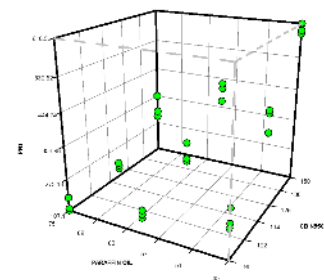

Fig. 2: Pressure at Nozzle over CB 550 and Oil content
Hydraulic pressure, pressure at the nozzle entrance (Fig. 2), and pressure loss in the runner accurately mirror the viscosity measurements obtained with the HKR laboratory equipment. This correlation also extends to the mass temperature (TM), not shown here.